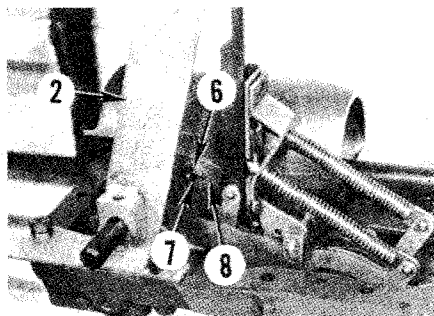
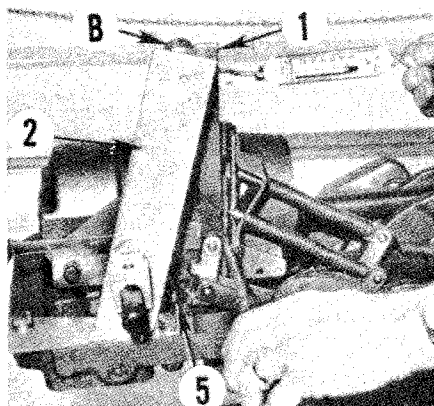

Fig. 223—Refer to text for changing the position of pivot assembly.
Fig. 224—Use a screwdriver to move pivot bracket while checking for correct setting. Refer to text.
If adjustment is incorrect, loosen pivot bracket nut (7—Fig. 223) just enough to allow pivot bracket to be moved. While applying 1.36 Kg (3 pound) pull to vertical lever, move pivot assembly with a screwdriver as shown in Fig. 224 until vertical lever lightly contacts bushing (B). Tighten nut to secure pivot bracket. Recheck adjustment after nut is tightened.